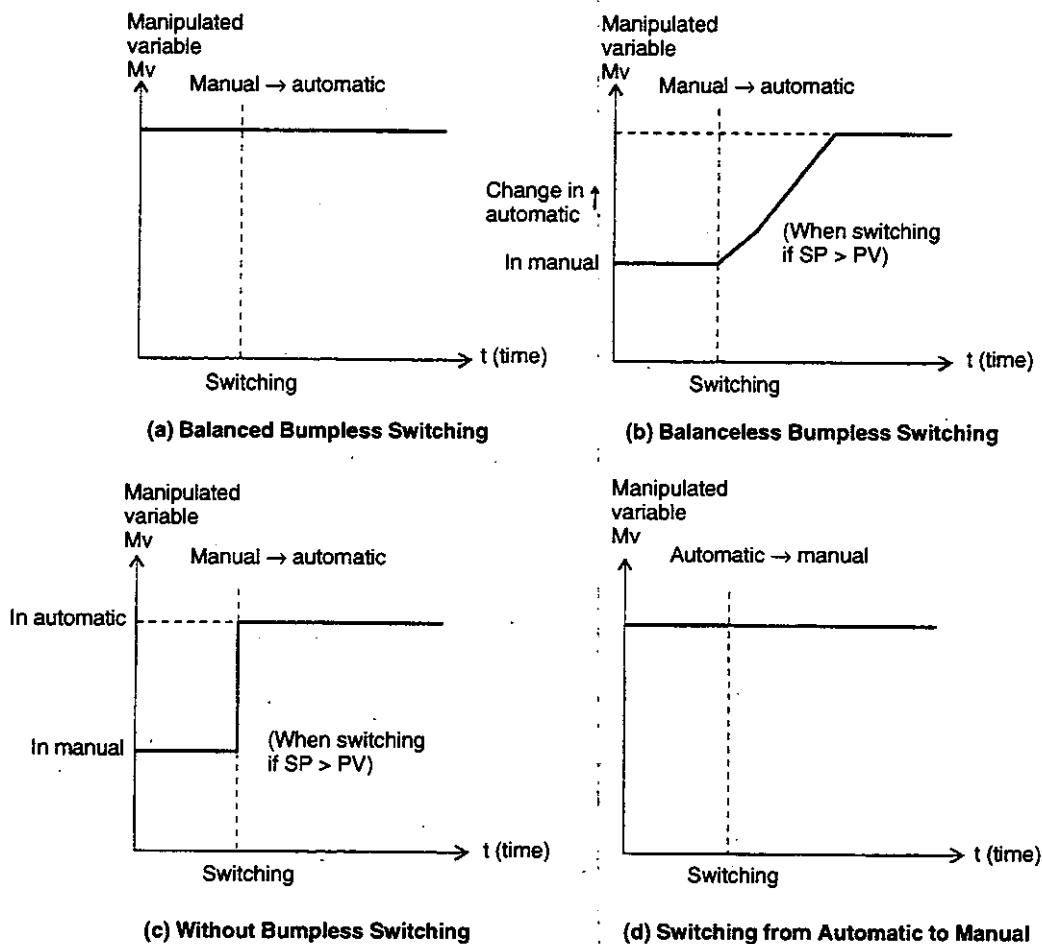

Figure 2.17 Manipulated Variable at Manual/Automatic Switching
Balanced bumpless switching refers to switching when the process error is maintained at zero by manual operation, i.e., switching in a balanced state. We will use this as the limited meaning of bumpless switching. (Figure 2.17 (a))
When the balance in a) above is not assumed, it is referred to as balanceless bumpless switching. (Figure 2.17 (b)) When switching from manual to automatic the change is continuous, and PID calculations causes a move towards the set point.
3) When switching from automatic to manual, the value immediately before switching to manual remains in the output register (MV), allowing switching to take place smoothly while maintaining that value. (Figure 2.17 (d))
Balanced bumpless switching can be performed. Set the SP to the target value, set the PV to the SP using manual operation, and then switch to automatic operation. (Figure 2.17 (a))
If balanced bumpless switching is not carried out, $4Y+3$, $4Y+4$ and $4Y+5$ must be cleared. When switching to automatic has been completed, the PV is not stable in the same state, but changes discontinuously towards the SP. (Figure 2.17 (c)) Because there is no I control, however, a constant process error remains.
Balanceless bumpless switching is possible under PI control. If switching from manual to automatic with a process error, the integral action will move the PV towards the SP. (See Figure 2.17 (b).)
Even if switching to automatic while manually maintaining a balance between SP values and PV values, it will switch smoothly. (See Balanced Bumpless Switching: Figure 2.17 (a).)